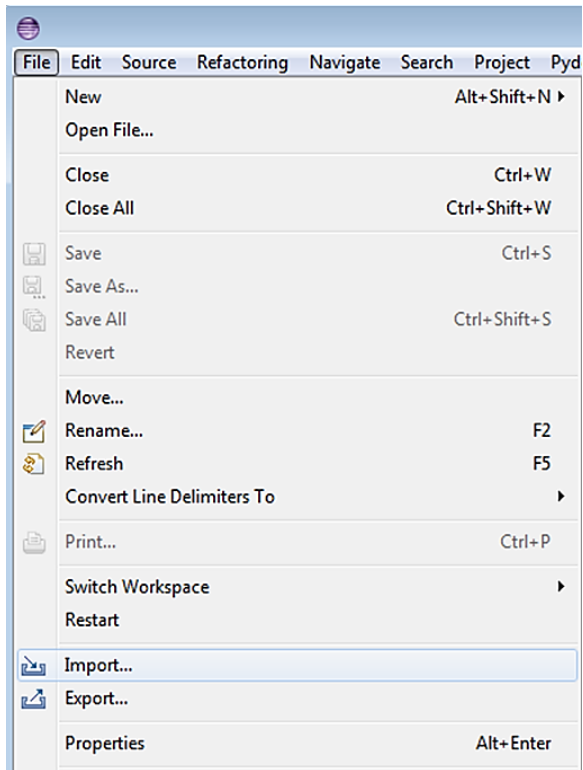

Figure 54: Checking VOLTRON with Eclipse From Local Source
1. Select File, then import as shown in Figure 54